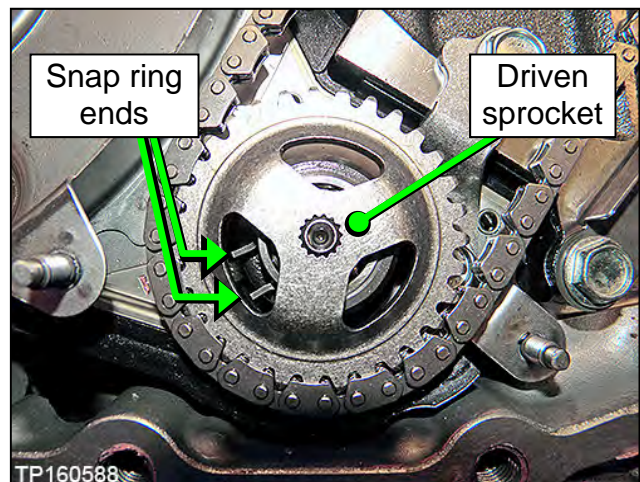

Figure 168
- a. Expand the snap ring with a suitable tool, and then push down on the driven sprocket until it bottoms out (Figure 168).